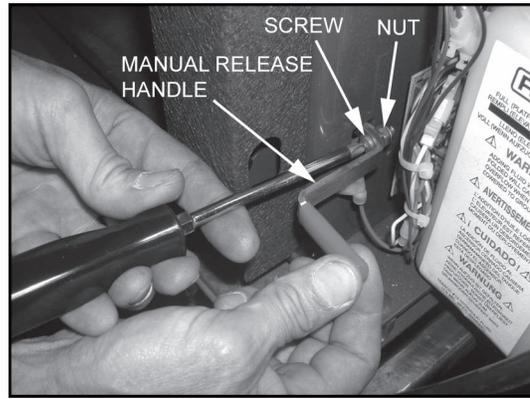

FIGURE 3-33
12. Refer to **Figure 3-33**. Remove screw and nut to detach manual release handle from stow-lock assembly and retain hardware.